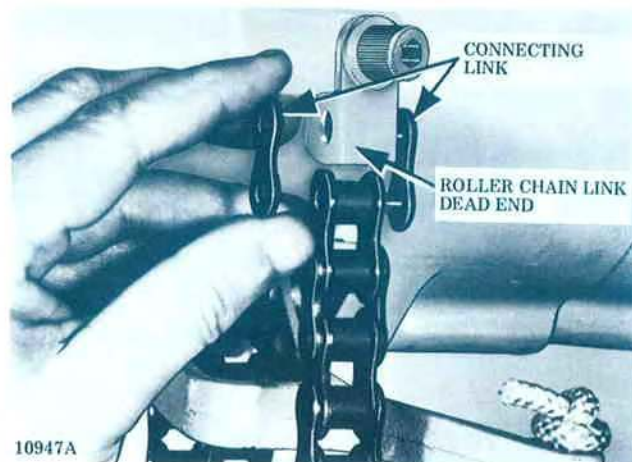

Figure 7-1. Removing Connecting Link at Tail End of Load Chain (Roller Chain Models).
(3) **Roller Type Load Chain.** Visually check for possible twists, broken links, wear or elongation. Check roller chains for elongation from wear by pulling chain taut and measuring as follows: On RC-625 or H-5 size chain (5/8" pitch), measure distance over a length of 20 pitches (center-to-center distance between 21 rivets) it must not exceed 12-3/4 inches. If chain exceeds this limit, replace damaged section or install new load chain assembly. Check chain for twist. If twist in any 5' extension exceeds 15", replace chain. Check chain for camber. If any section has side bow exceeding 1/4" in five feet, replace chain. Use only factory approved chain. If chain is to be spliced to replace damaged section, it is recommended that this be done by an Authorized Repair Station, since splicing link must have a spun head requiring special tools. Spring link must not be used except to secure the tail chain to the hoist frame. (See Figure 7-1.)
(1) On models with single reeved load chains (1/4, 3/8 and 1/2 ton), disconnect end of load chain from tail end anchor boss at side of hoist frame. Remove chain anchor by prying off spring clip and remove connecting link, attaching chain to anchor boss on roller chain models (Figure 7-1). Remove socket head cap screw, holding end